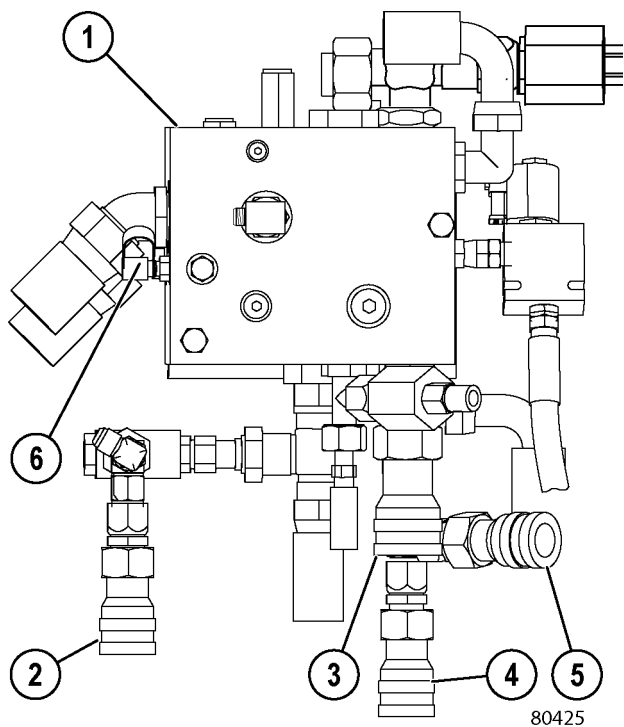

FIGURE 10-10. BLEED DOWN MANIFOLD
11. Connect jumper hose (XB5776) between QD SUPPLY disconnect (4, Figure 10-10) and QD RETURN disconnect (3) on the bleed down manifold.
NOTE: Do not connect any hoses to disconnect fittings (2 & 5, Figure 10-10).